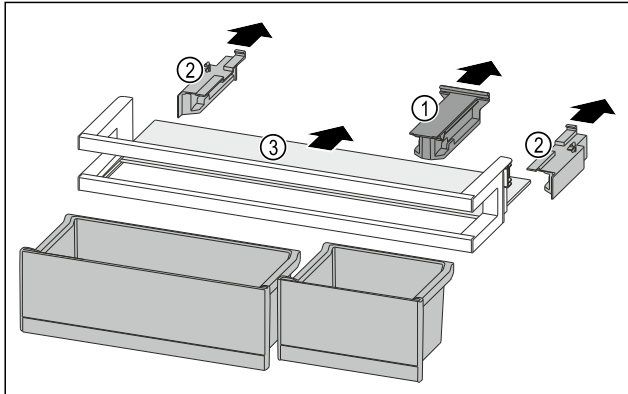

Fig. 92
- Pull off the holding part *Fig. 92 (1)*.
- Pull off the side parts *Fig. 92 (2)*.
- Remove the shelf *Fig. 92 (3)*.